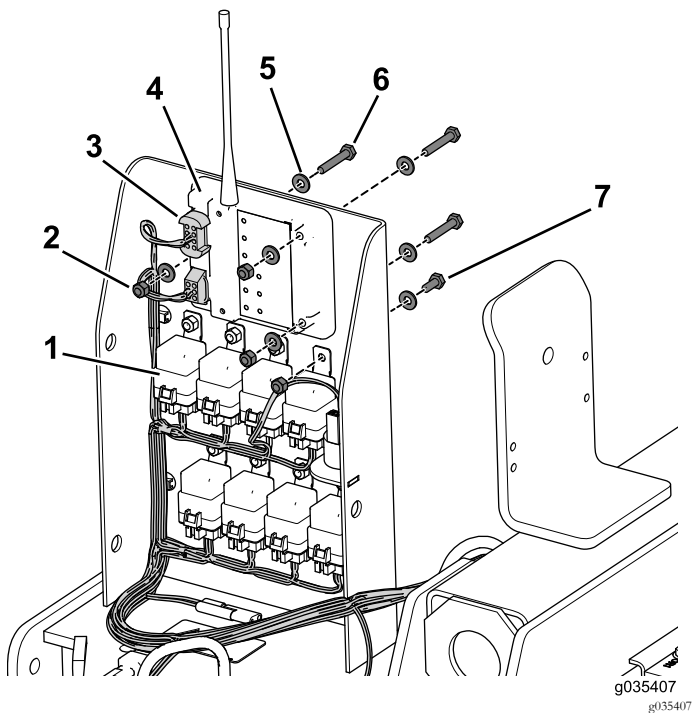

Figure 2
2. Disconnect the wire harness from all the components except the relays (Figure 2).
3. Remove all the hardware securing the components on the inside of the compartment (Figure 2).
4. Remove all the components except for the audio alarm from the compartment (Figure 2).